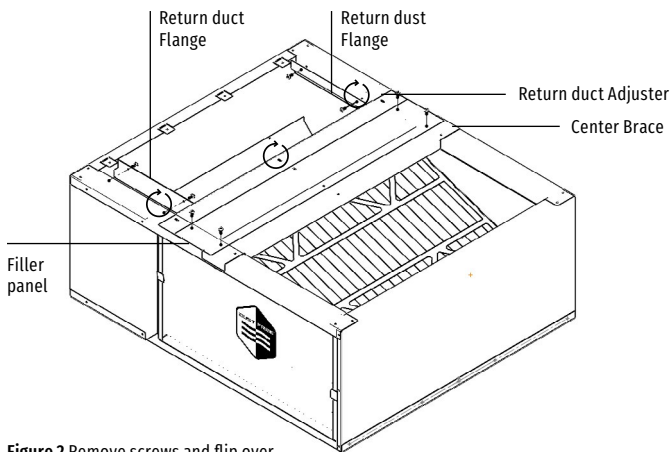

Figure 2 Remove screws and flip over
2. Remove the screws on the return duct adjuster and flip over so that the flange is upwards as shown in figure 2 and 3. Reference the opening in the bottom of the furnace or air handler and adjust the opening width in the equipment side of the media air cleaner cabinet to match. The center braces can be moved to different pre-established locations using the holes in the top of the cabinet. Depending on the desired locations, the filler panel may be used or discarded. Once in place, secure the center brace, fill panel, and return duct adjuster with the supplied #8 x $\frac{3}{8}$ " screws.